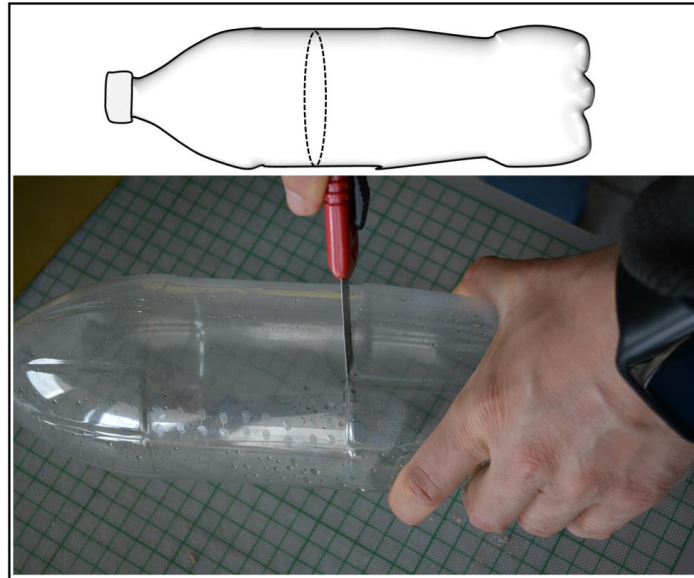

Figure 18
- Using the craft knife cut the plastic soda bottle (1.5 lt) at approximately the 2/3 of its height (or at 1/2 of its height depending on how long you wish to make the vacuum cleaner). See Fig. 18.